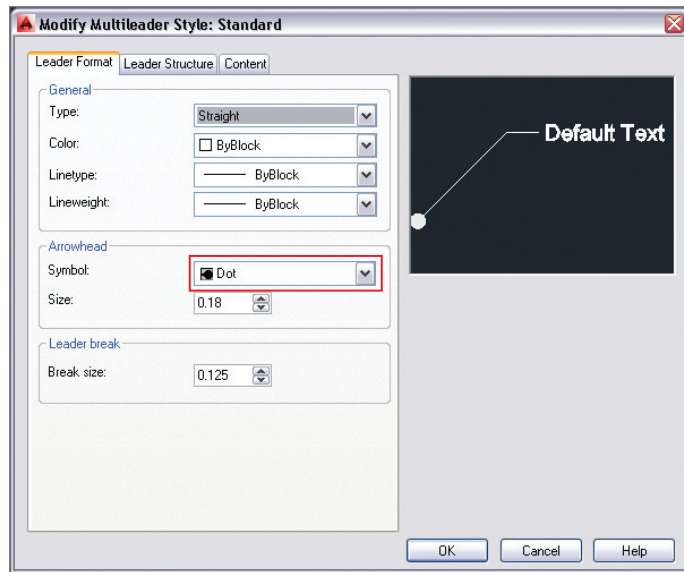

FIGURE 11.21 Editing a multileader style
4. Choose Dot from the Symbol drop-down in the Arrowhead section on the Leader Format tab of the Modify Multileader Style: Standard dialog box (see Figure 11.21). Click OK and Close, and the leader object automatically has a dot on its end.